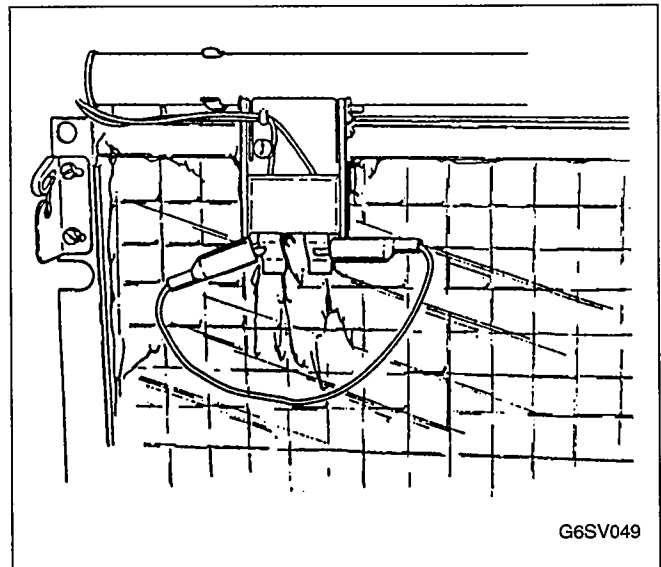

FIGURE 27. JUMPER WIRE CONNECTED TO PROBES
Step 2: Clip the leads of the jumper wire to the ice thickness control probe, Figure 27.